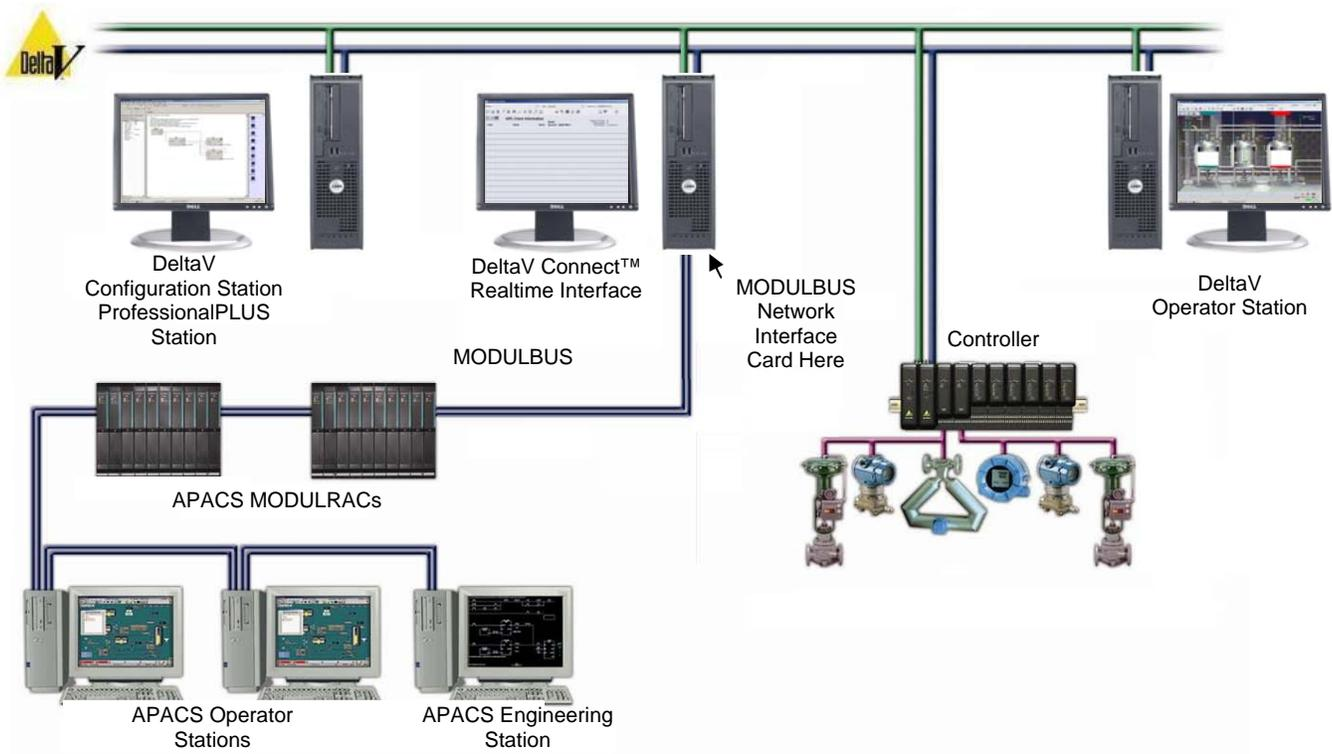

Figure 3. DeltaV Connect™ Solution MBI/MNI Schematic
- 2) Direct Modbus connection with installation of a Modbus and ModuNet interface (MBI/MNI) card into the DeltaV Application Station (Figure 3):